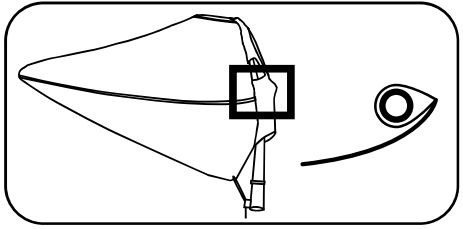

Figure 2: Slide the mast in above the foot batten.
b) Slide your mast into the luff sleeve, making sure the mast sits above the battens (figure 2). **Do not apply any outhaul.**